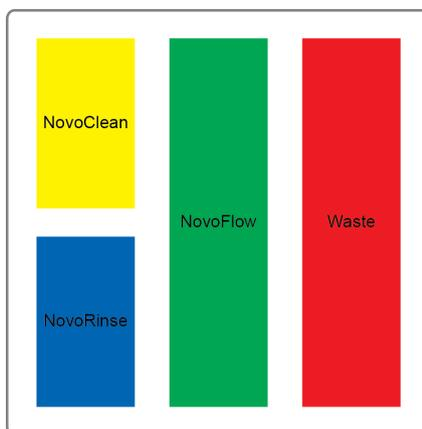

Figure 1-12 Schematic of the Container Position in the Fluidics Station
**!** Please ensure that the container position in the fluidics station is correct (see Figure 1-12 and the label on the container). A similar label can be found on the left side of the fluidics station as well. The containers are color coded to match the illustrated position as well.